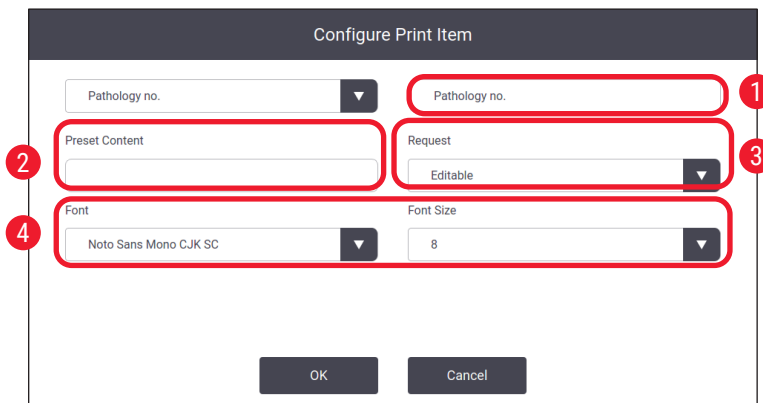

Fig. 45
- B. Select the item, for example, **Pathology number**. The configuration items of the pathology number (→ Fig. 45) are displayed on the **Template item configuration** screen.